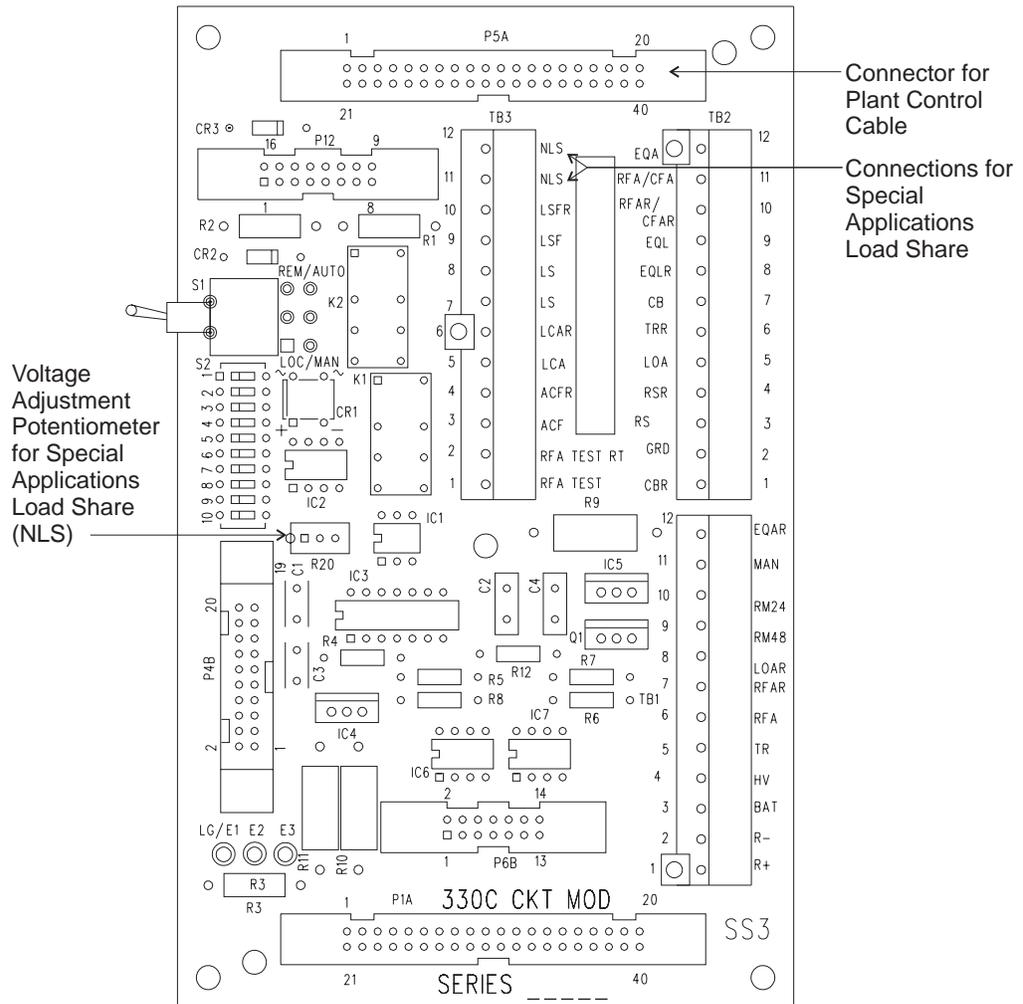

Figure 5-6: CM4 Interface Board (330C)
9. If rectifiers are to be operated in load share, connect a 20 gauge wire from **TB3-7** on **CM4** to **TB3-8** on **CM4** of the adjacent rectifier. See Figure 5-6. The wire must be UL recognized with minimum ratings of 80° C and 150 volts ac. All load-sharing rectifiers must be "daisy-chain" connected in this manner.